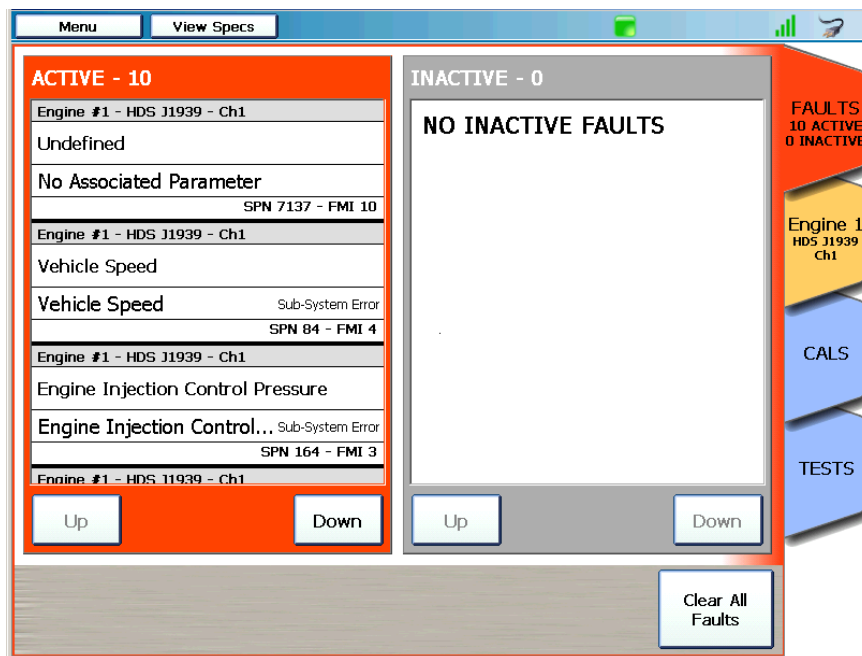

Figure 2.1 Diagnostics Menu
- 1 From the Diagnostics Menu (Figure 2.1), select the **PARAMETERS** tab.